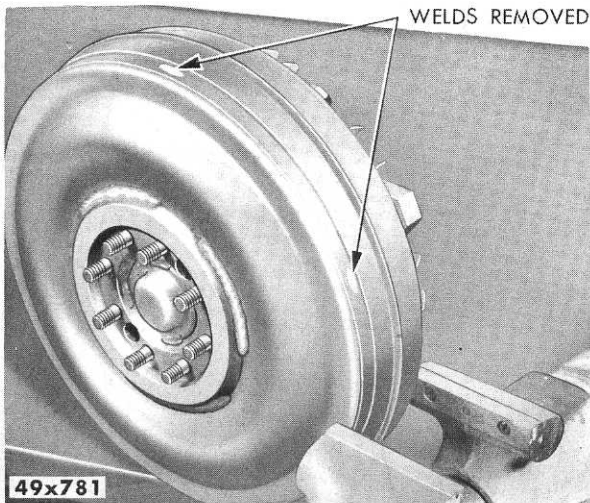

Fig. 24—Remaining Weld Removed
- (5) Position the fluid drive assembly in a vise and remove all of the remaining welded metal with a 12-inch bastard file. Be extremely careful when filing. Remove only the remaining weld (Fig. 24).